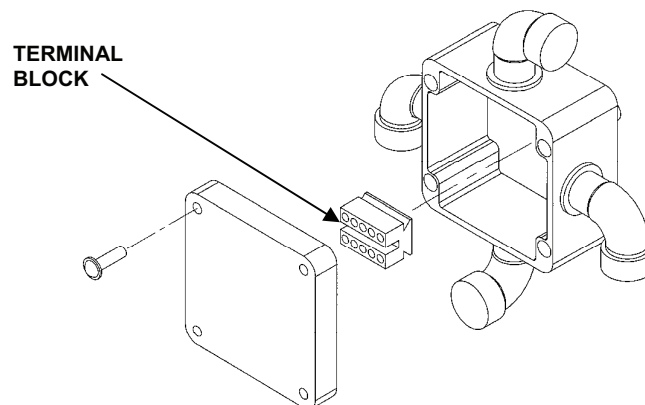

Figure 3. Terminal Block.
9. Remove end stops on the mounting rail and pry off the terminal block from the mounting rail. See Figure 3.